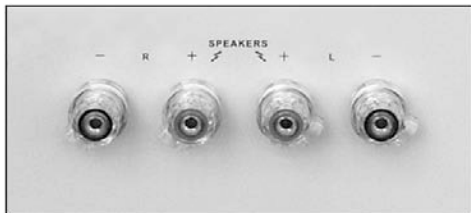

Fig. 3 Amplifier loudspeaker outputs (example).
2. Connect the other cable ends to the loudspeaker outputs of your **switched off** power amp (see Fig. 3).